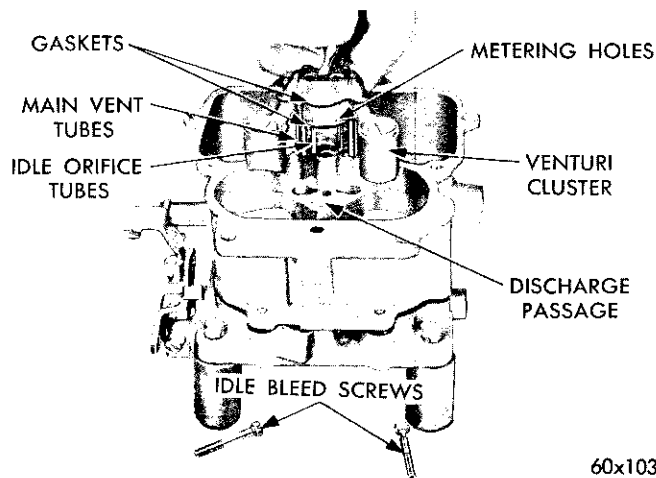

Fig. 9—Removing or Installing Venturi Cluster
(10) Remove the venturi cluster idle bleed screws, then lift the venturi cluster and gaskets up and away from the main body, as shown in Figure 9. Discard the gaskets. **Do not remove the idle orifice tubes or the main vent tubes from the cluster.** They can be cleaned in a solvent and dried with compressed air.
(11) Invert the carburetor and drop out the accelerator pump discharge check ball.
(12) Remove the idle mixture adjusting screws and springs from the throttle body.
(13) Remove the screws that attach the throttle body to the main body. Separate the bodies and discard the gasket.
(5) Install new gaskets on the venturi cluster, and install in position in the main body. (Refer to Fig. 9). Install the idle bleed screws and tighten securely. Test pump discharge by pressing pump plunger